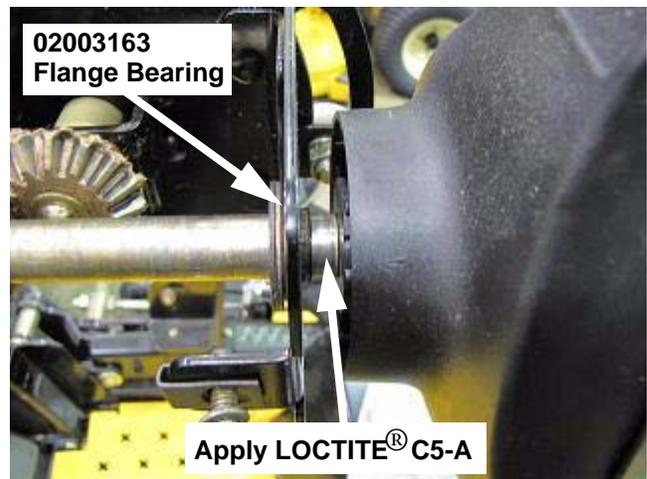

FIGURE 11
17. Apply a small amount of LOCTITE® C5-A on the steering shaft in the area shown in Figure 11.